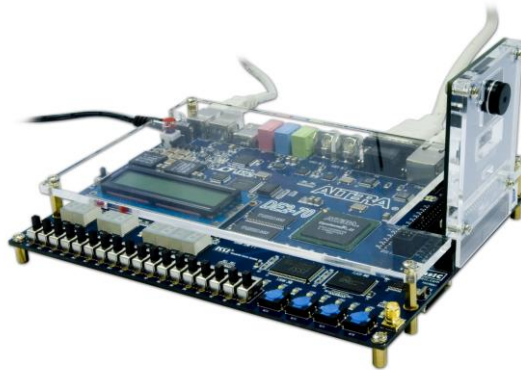

Figure 1-4 Connect the D5M to DE2-70 board's expansion port (outermost port).
3. Connect the D5M to your DE2-70 board as shown in **Figure 1-4**.